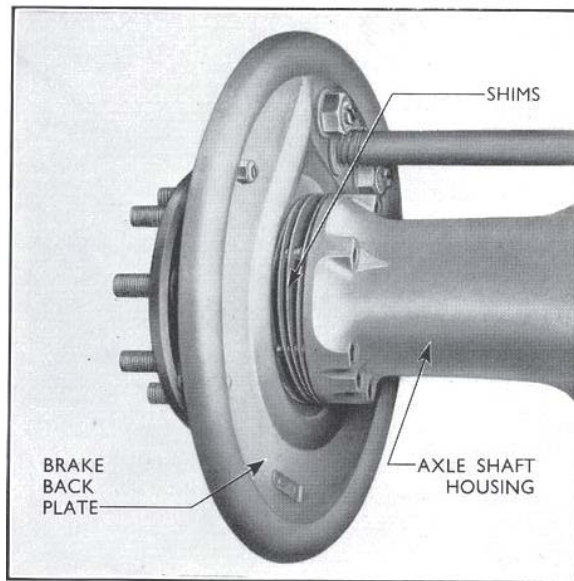

Fig. 11
9. Ensure that the opposite axle shaft and bearing retainer are securely installed and wedge the axle shaft outward (see Fig. 11). Turn the axle shaft flange through a small angle as the wedge is inserted to ensure that the bearing cone seats fully in its cup.